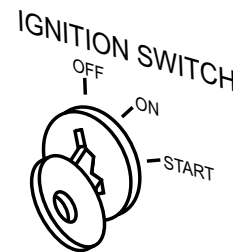

Figure 35. Ignition Key (Off)
4. If the check engine warning lamp is on, stop engine. Place ignition key in the OFF position. See Figure 35.